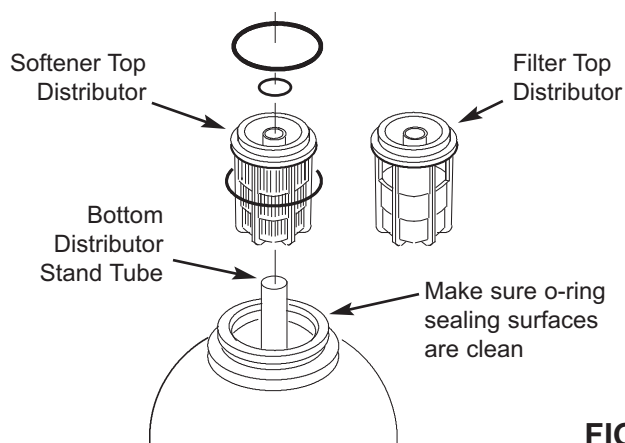

FIG. 3
9. Install the o-ring seals and top distributor exactly as shown in Figure 3. If the o-rings need lubrication, use a high quality silicone grease.